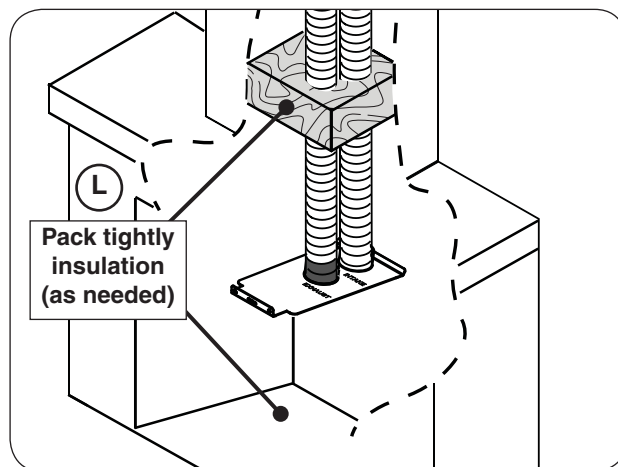

Fig. 25-3 Insulate chimney and fireplace
12. Pack tightly insulation (not included) in fireplace around pipes at damper area (inside bottom of chimney), ash trap, gas line access, holes, and any air openings, etc. See Fig. 25-3, L.